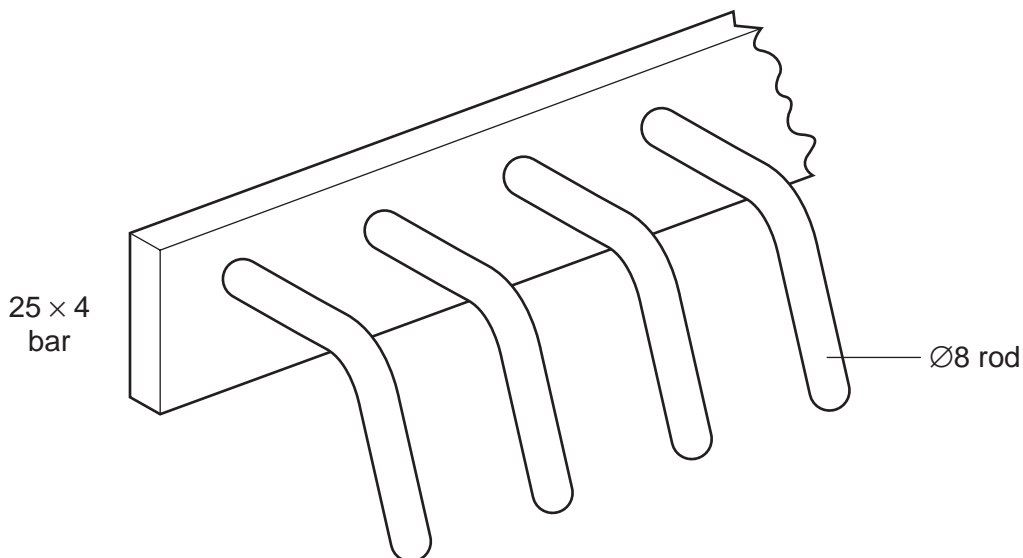

Fig. 3
- 5 Fig. 3 shows part of a garden rake made from mild steel.